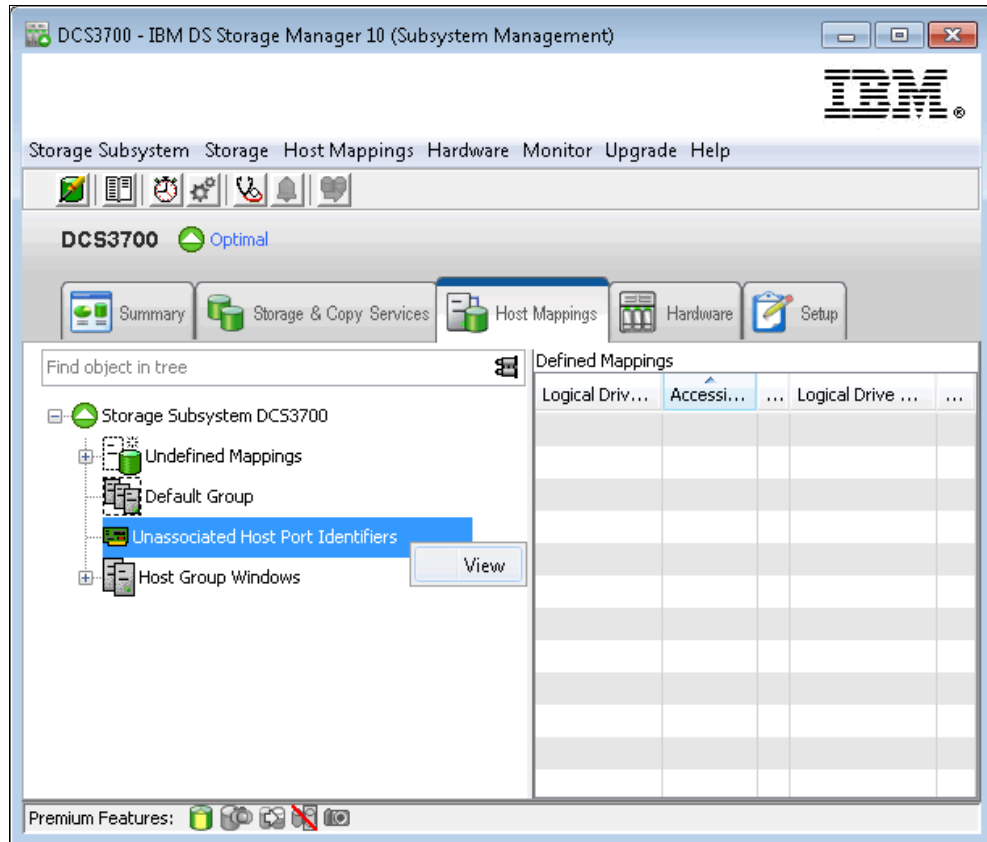

Figure 19-9 Unassociated host port
1. Search for new host ports that are connected to the DCS3700 storage subsystem, right-click **Unassociated Host Port Identifiers**, and select **View**, as shown in Figure 19-9.